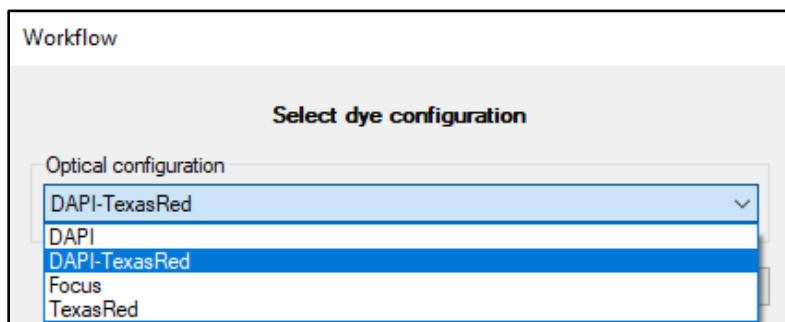

Figure 83. Initiate chip scanning. The default selection will match the previous user's choice.
3. Then select the Optical configuration that you would like to use for this scan from the drop-down menu (Figure 83). Custom optical configurations can be created following the guidelines in Appendix E.